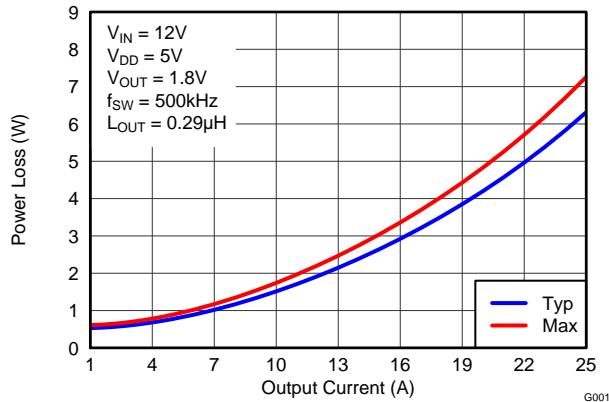
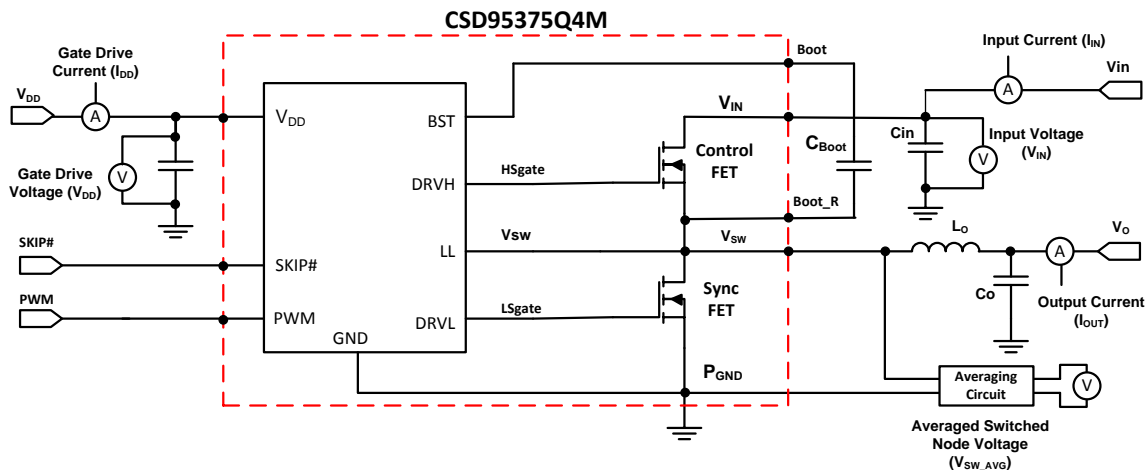

Figure 3. Power Loss vs Output Current
Figure 17. Power Loss Test Circuit
MOSFET centric parameters such as $R_{DS(ON)}$ and Q_{gd} are primarily needed by engineers to estimate the loss generated by the devices. In an effort to simplify the design process for engineers, Texas Instruments has provided measured power loss performance curves. Figure 3 plots the power loss of the CSD95375Q4M as a function of load current. This curve is measured by configuring and running the CSD95375Q4M as it would be in the final application (see Figure 17). The measured power loss is the CSD95375Q4M device power loss which consists of both input conversion loss and gate drive loss. Equation 1 is used to generate the power loss curve.
The power loss curve in Figure 3 is measured at the maximum recommended junction temperature of $T_J = 125^\circ\text{C}$ under isothermal test conditions.
- Typical Power Loss at 10A = 1.5W (Figure 3)